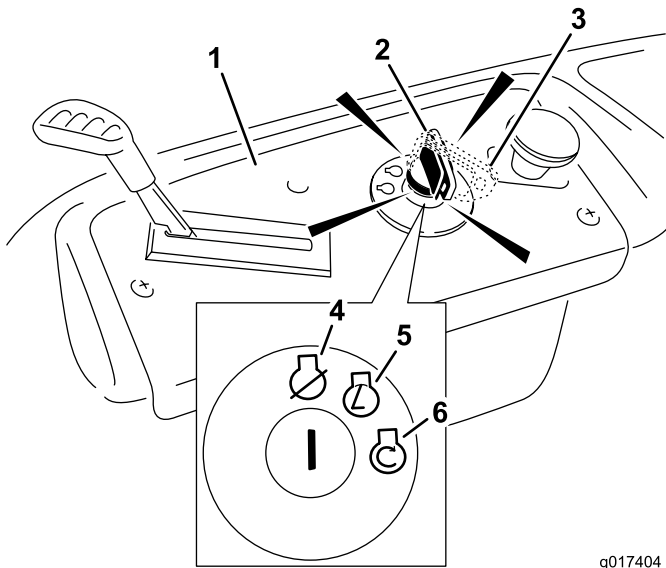

Figure 13
- Turn the ignition key to Start to energize the starter. When the engine starts, release the key (Figure 13).
- Move the throttle lever to the Fast position (Figure 13).